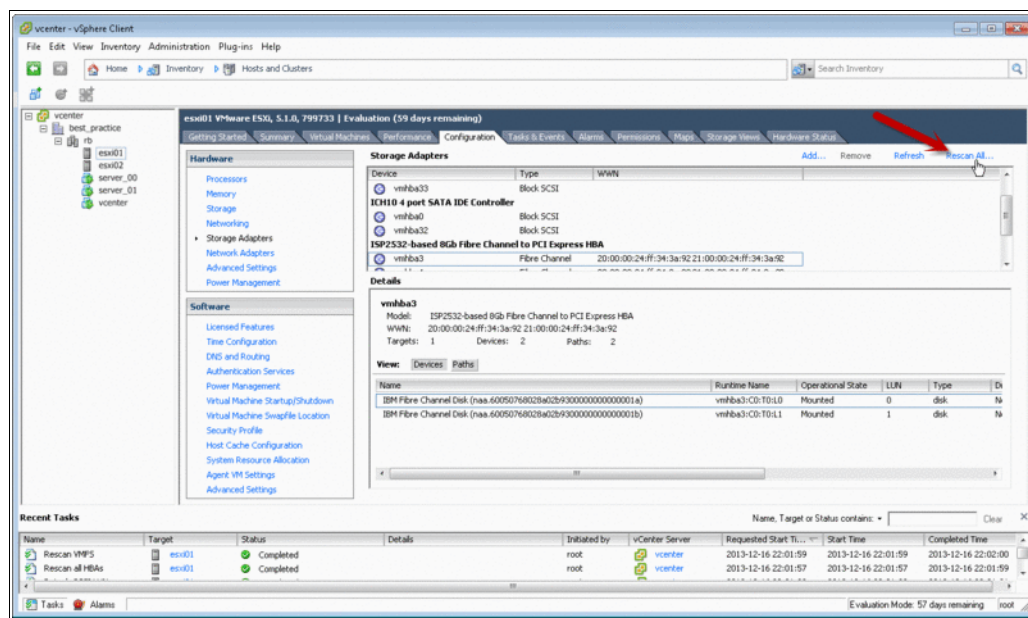

Figure 16-33 Rescan and removal of the unmapped volume
4. In the vSphere Client, switch to the Configuration tab of the ESXi host, click **Storage Adapters** and run the Rescan task on the storage adapters. The device is removed from the Storage Adapters view, as shown in Figure 16-33.